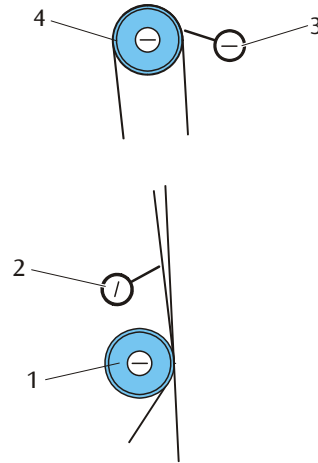

Fig.1 Positioning the edges (1 Idler pulley, 2 Bottom metal edge, 3 Top metal edge, 4 Deflection pulley)
- Align the metal edges as shown in Fig. 1. Position them as close to the belt as possible without touching it.